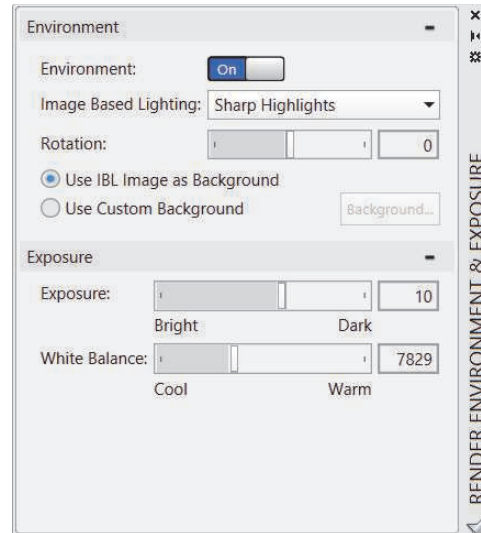

Figure 10–66
- Leave all other defaults, as shown in Figure 10–66.